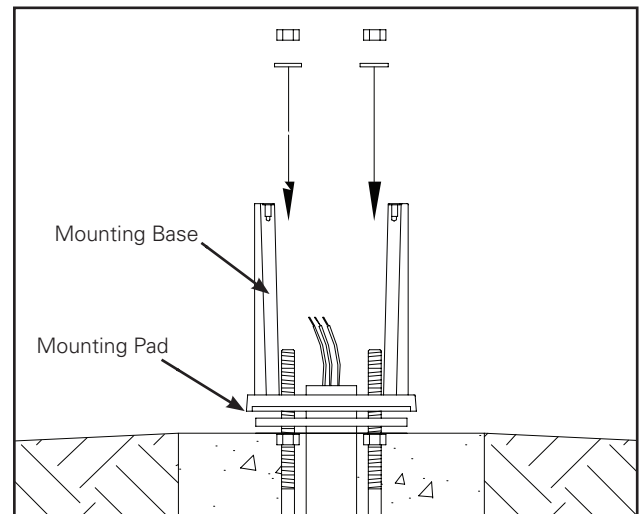

Figure 3.
2. Remove the external housing from the fixture base. Next, remove the top four nuts from the anchor bolts and discard the aluminum template. Make sure that the neoprene mounting pad is in its place on the bottom of the mounting base. Place mounting base onto the bolts and replace the four nuts as required. (Figure 3.) Recommend removing driver mounting plate when necessary. To level the base, adjust the four lock nuts. Use 9/16" wrench to tighten the nuts. As you tighten the nuts, the base compresses the underlying neoprene pad for quick and easy leveling. Seal the conduit entry from water or moisture from backing up into the fixture using a silicone or re-enterable potting material.